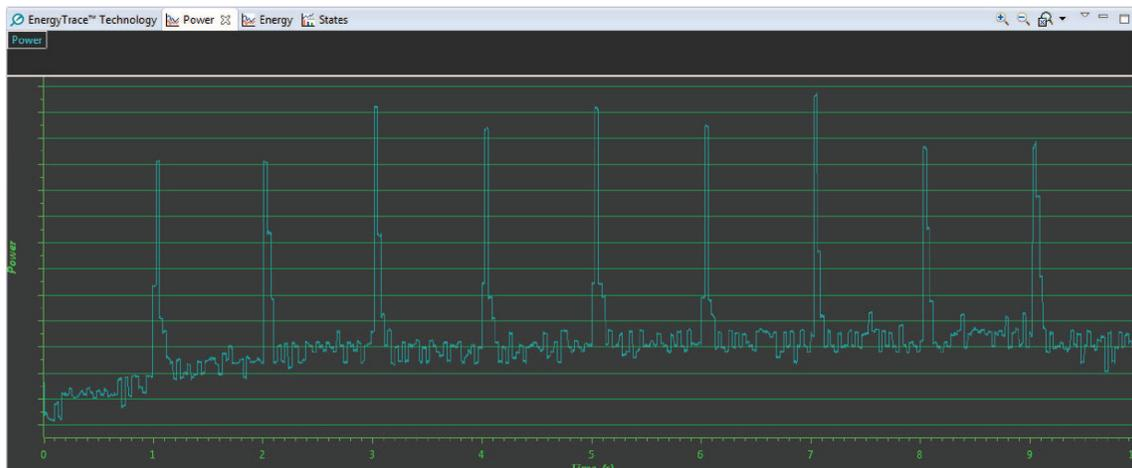

Figure 13. Inefficient.c Power
- Click the *Power* tab (see Figure 13). Notice that the power consumption spikes up about every second, which corresponds to taking and processing the ADC temperature measurement. Be aware that the measurement taken by EnergyTrace is an energy measurement, and the power results are calculated from the accumulated energy value (why the power graph is not smooth).